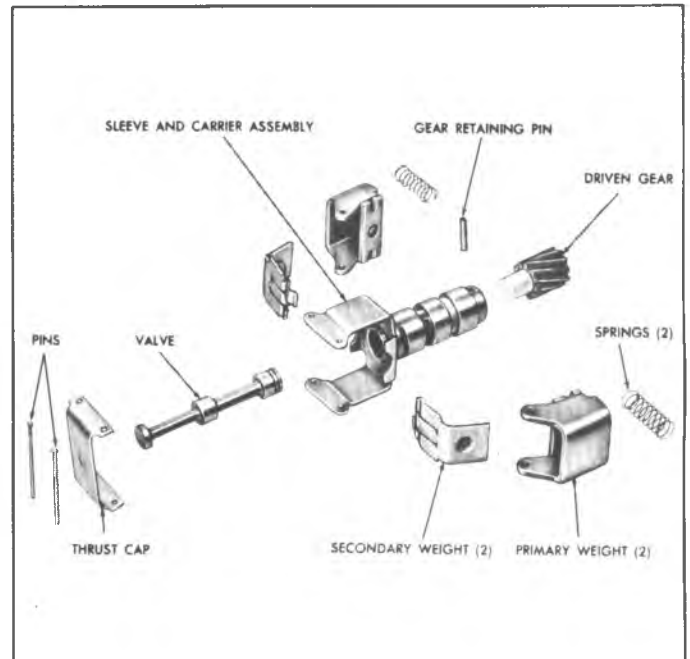

Fig. 87N--Governor Assembly--Exploded View Typical
1. Cut off one end of each governor weight pin and remove pins, governor thrust cap, governor weights, and springs. Governor weights are interchangeable from side to side and need not be identified (fig. 87N).